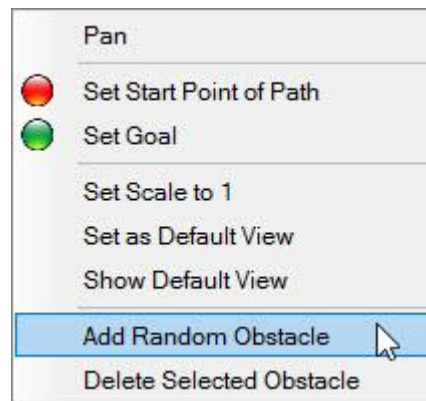

Figure 5.13: Adding random obstacle via the context shortcut menu
- Context shortcut menu (Figure 5.13)